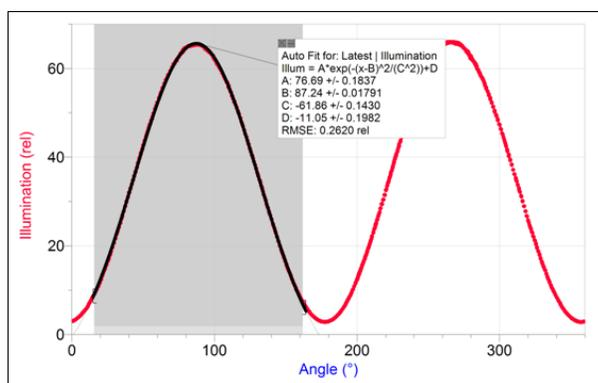

Figure 1 Selection for Statistics and Gaussian fits (applies to all supported software)
- a. Statistics: To simply get the angle with the highest illumination, highlight the peak of interest in Instrumental Analysis, as shown in Figure 1. Click or tap Graph Tools, , and select View Statistics. Record the angle value where the illumination is at a maximum, as presented in the box. This method is the fastest and will result in reproducibility of the angle of rotation measurement of $\pm 2.0^\circ$.
- a. Statistics: To simply get the angle with the highest illumination, highlight the peak of interest in LabQuest App, as shown in Figure 1. Choose Statistics from the Analyze menu. Record the angle value where the illumination is at a maximum, as presented in the box. This method is the fastest and will result in reproducibility of the angle of rotation measurement of $\pm 2.0^\circ$.
- b. Gaussian: To improve your accuracy with a better fit, highlight the peak of interest using LabQuest App, as shown in Figure 1. Then, choose Curve Fit from the Analyze menu. From the list of available Equations, select Gaussian. The fit will run automatically. The B coefficient presented represents the angle at maximum illumination. This method will result in reproducibility of the angle of rotation measurement of $\pm 0.3^\circ$. The data are not a true Gaussian, but the ease and accuracy of this methodology make it a good option. For best results, be consistent in the way you select your peaks.